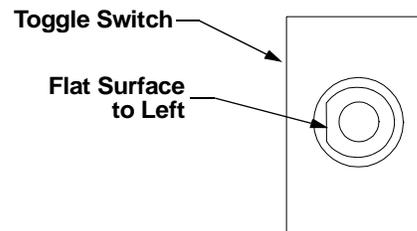

Figure 2
- Remove the nut from the toggle switch (16).
- Note the flat surface on the mounting pilot of the toggle switch. With the flat surface toward the *left*, insert the pilot of the switch through the backside of the dash panel. See Figure 2.